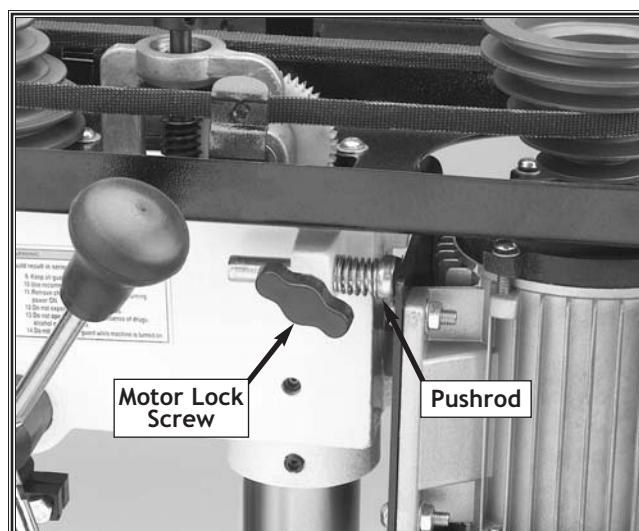

Figure 16. Motor lock screw.
3. Loosen the motor lock screw at the side of the headstock. See **Figure 16**.